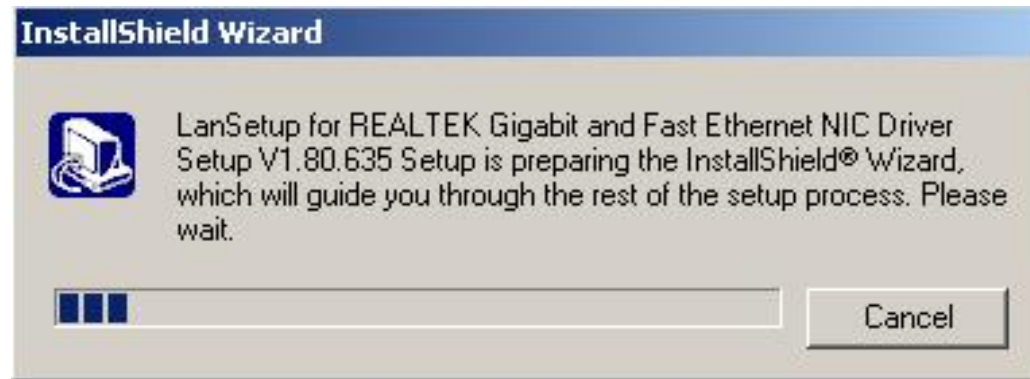

Figure 7-21: Preparing Setup Screen
**Step 5:** The **Install Shield Wizard** is prepared to guide the user through the rest of the process (**Figure 7-21**).